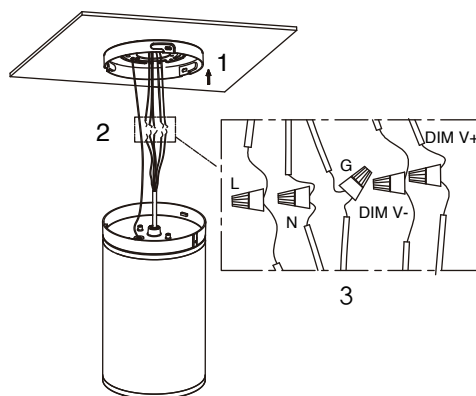

fig. 5
5. Attached safety rope to the ceiling mounting plate. Make appropriate electrical connections according to the wiring diagram. (Figure 5)